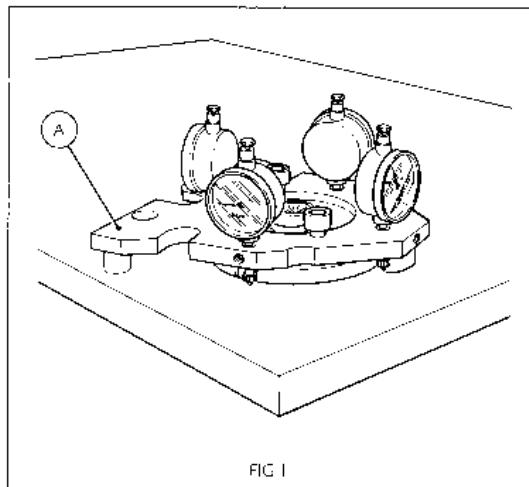

FIG 1
Close ratchet (12, Fig. 1) loosening screw (11) and screw (2, Fig. 1) using a socket head wrench (2). Rotate crank (1) thus activating cutter (7) and reground the seat, taking care not to remove too much material.
As shown in Fig. 1, arrange plate A on a suitable surface plate and set the four dial gauges with a preload of 1 or 2 mm correctly to zero.